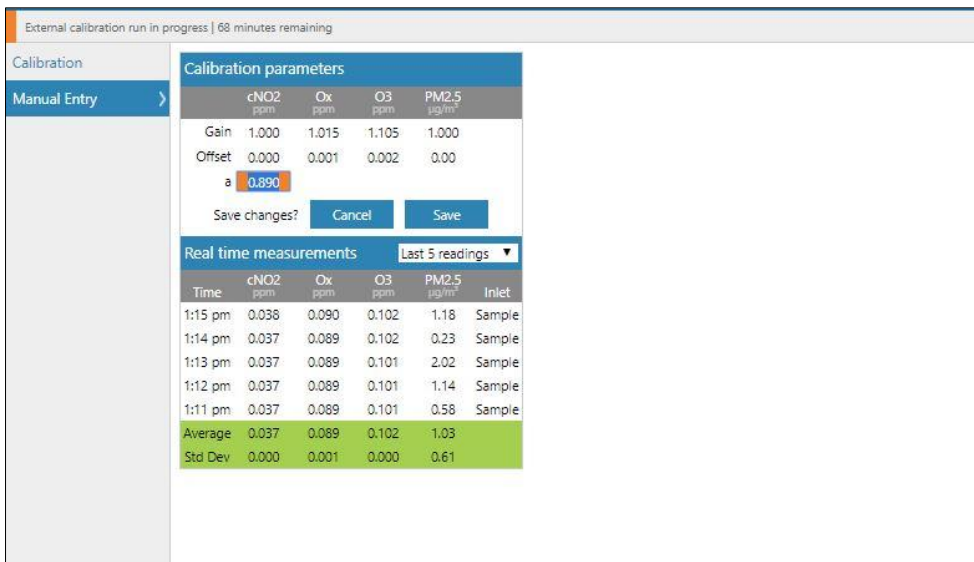

Figure 7-4 The Manual Entry section of the Calibration and Service App is where the gain and offset and the a value on the NO2 module is set.
1. Open the Calibration app, if Ox appears in the parameters and there is data then it is installed. See Figure 7-4. If there is no data, then the module may have been removed but not deleted from the sensor list.